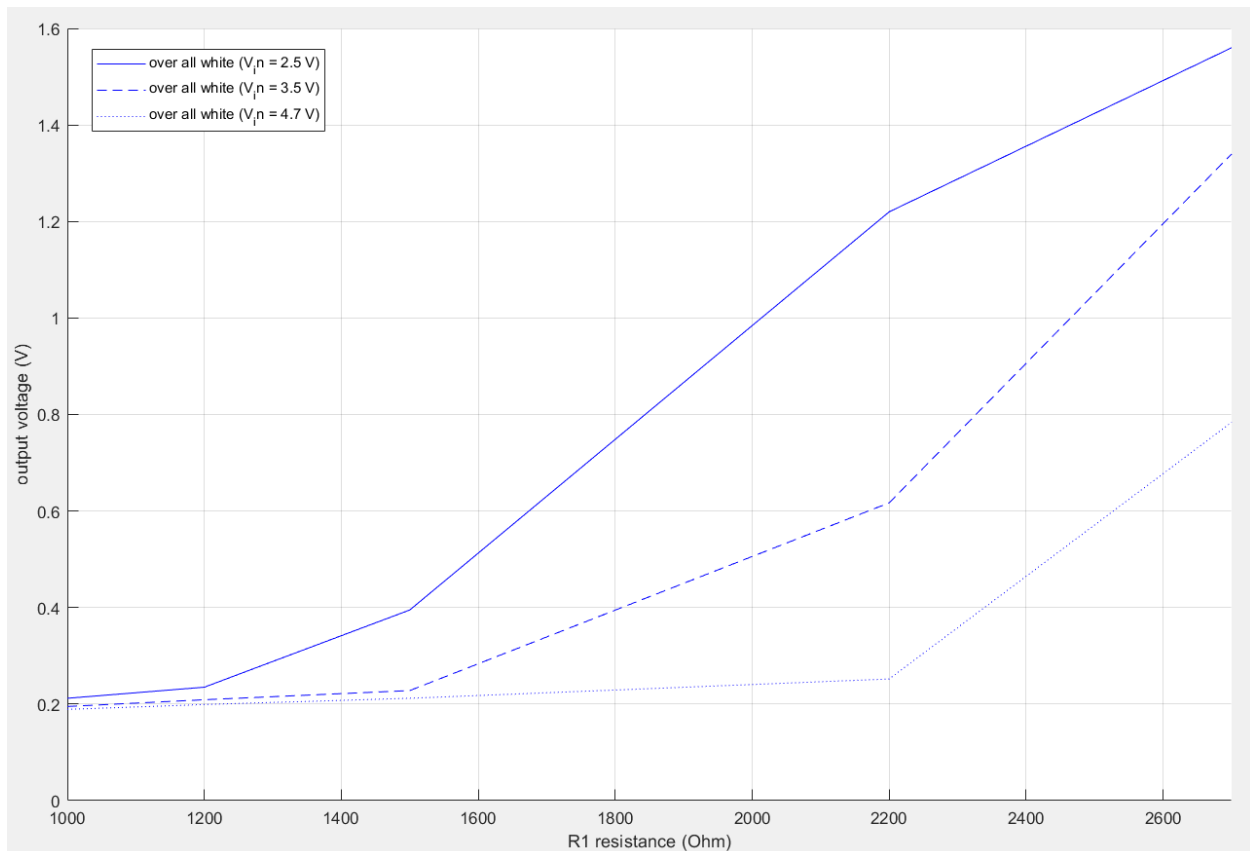
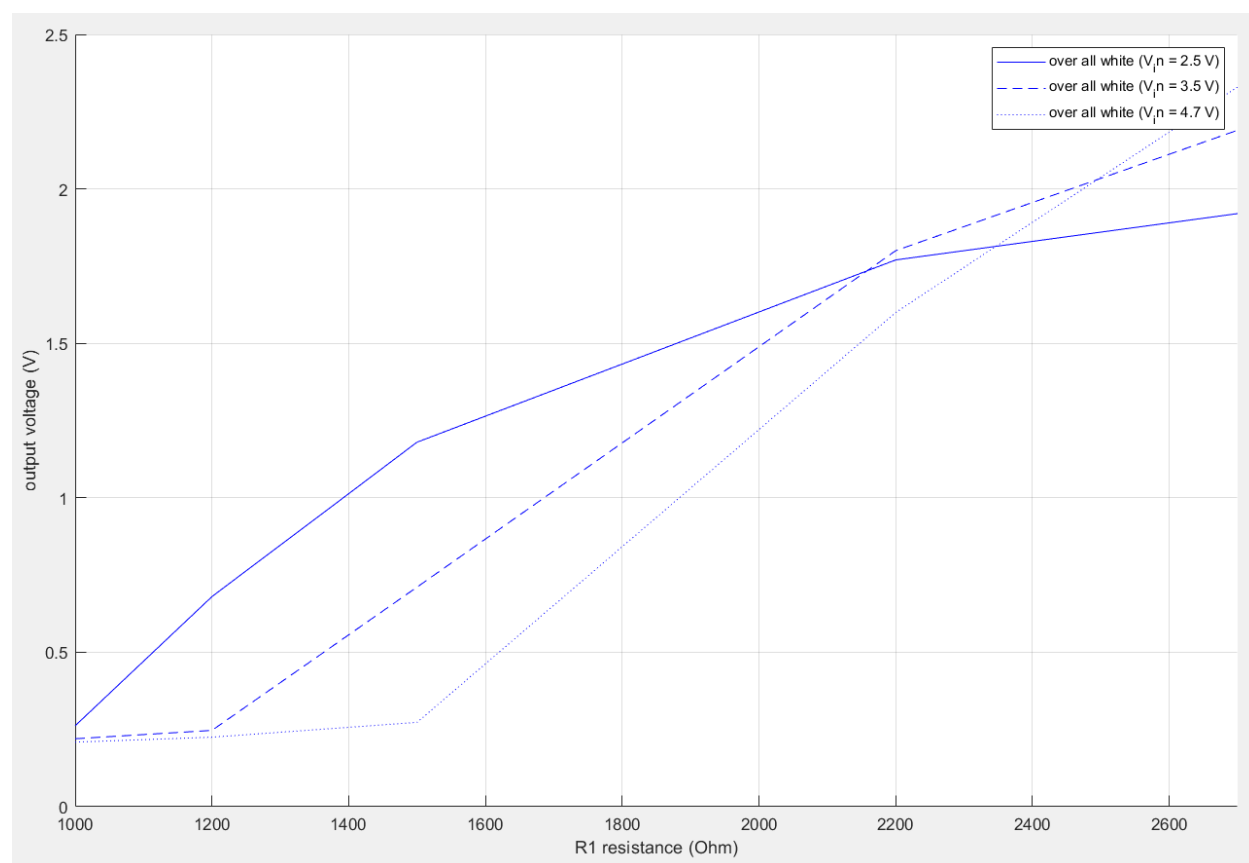

Figure 16 Output voltage dependence on value of R1. R2 = 220 kOhm, height = 2 mm.
Figure 17 Output voltage dependence on value of R1.  $R_2 = 220 \text{ kOhm}$ , height = 4 mm.
- **CON** if value of R1 is too large sensor unit might get too dim and reading over all white will be close or the same as over all black (see Figure 16)
- **CON** sensed object must be close to the sensor. If value of R1 works for distance of 2 mm (see Figure 16) it might not work for distance of 4 mm (see Figure 17).